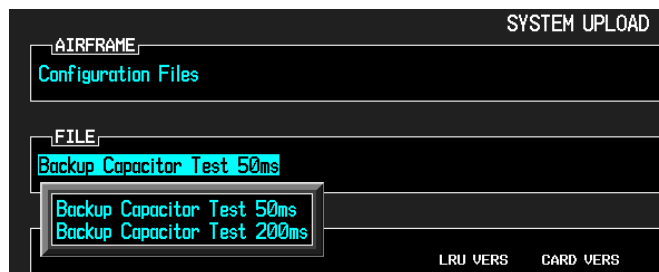

Figure 6-1. Backup Capacitor Test Selection
12. Select the configuration file “Backup Capacitor Test 50ms” from the SYSTEM UPLOAD Page (Figure 6-1).